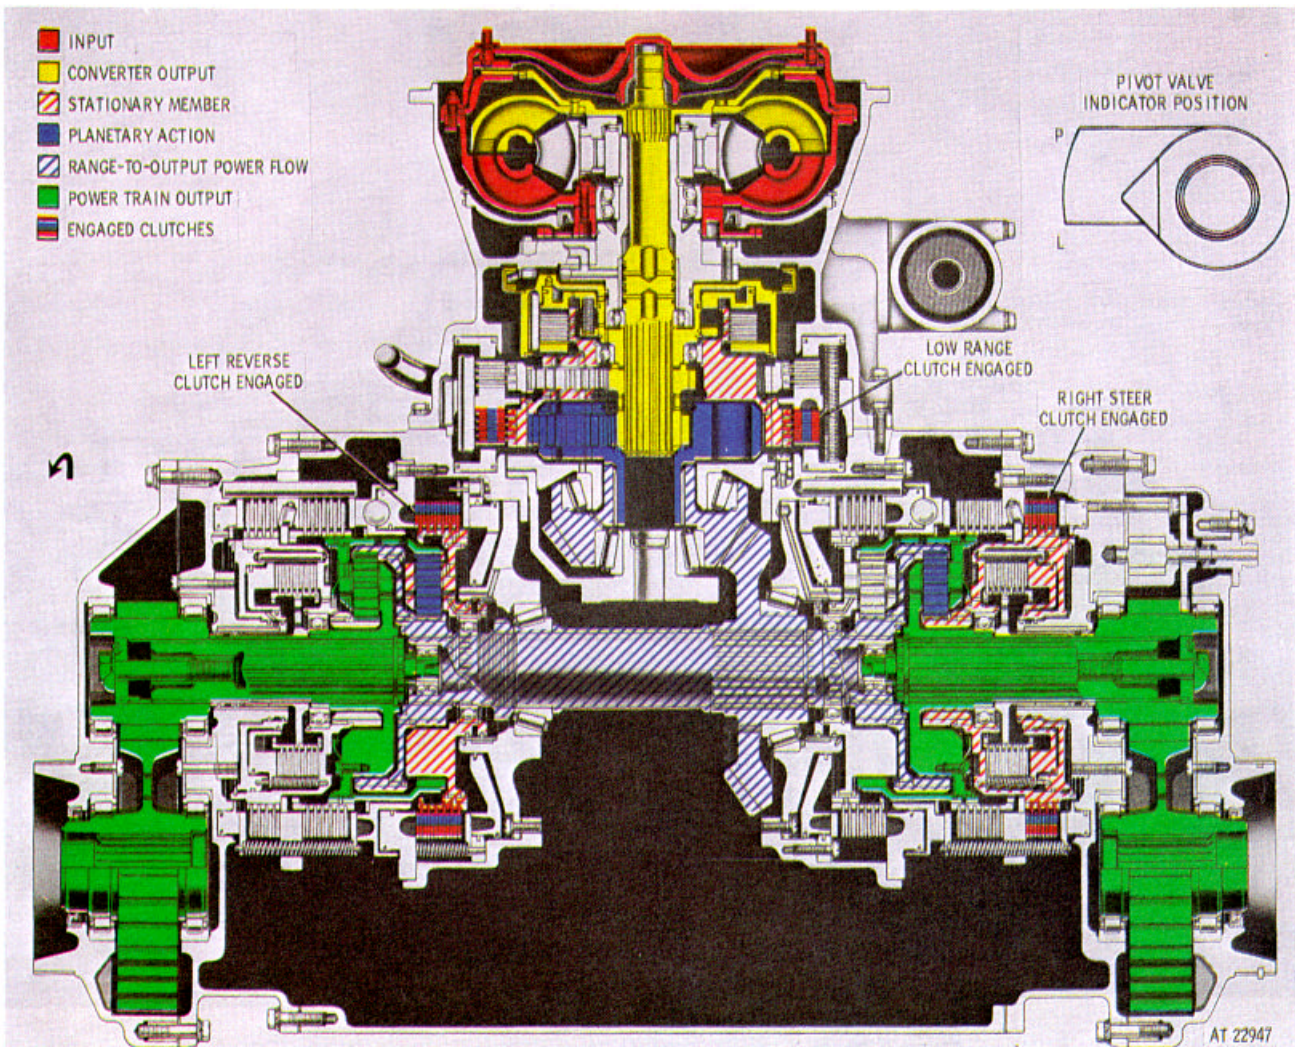

Figure 2-21. First gear, normal left steer operation-torque path.
a. *First Gear, Normal Left Steer (fig. 2-21).*
(2) First gear, pivot left steer is identical to that described in paragraphs 2-51a (1) and (2), and illustrated in figure 2-21.